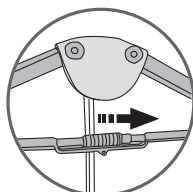

fig.9
4. Slide the ring to fix the hanger - fig.9